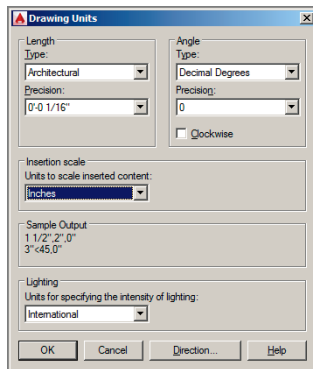

FIGURE 7.8 Setting Insertion Scale in the Drawing Units dialog box
1. Type **UN** (for Units), and press Enter. Open the Insertion Scale drop-down menu, and select Inches (or Centimeters for metric) if it is not already selected (see Figure 7.8). Click OK to close the Drawing Units dialog box.